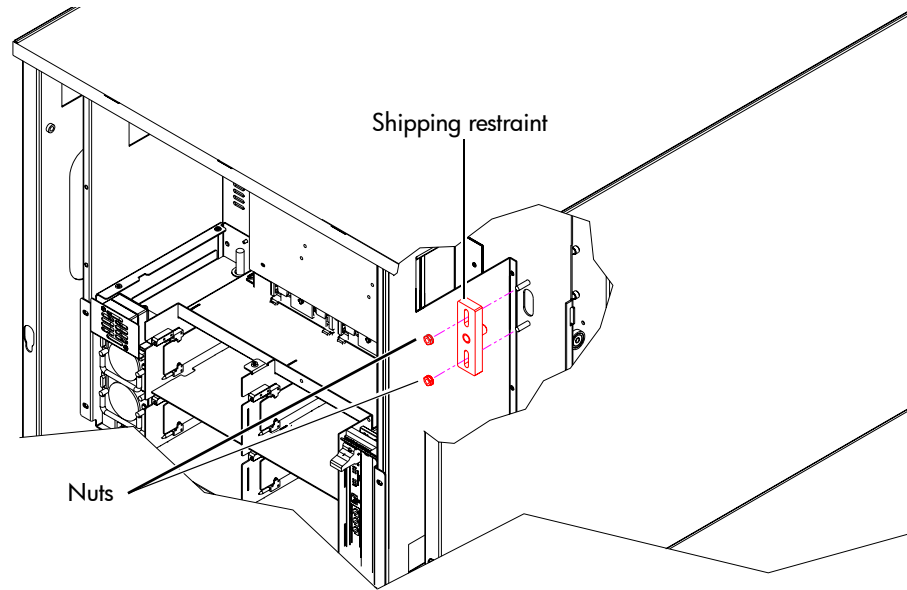

Figure 39: Installing the counterweight shipping restraint
6. Install the counterweight (see Figure 39).